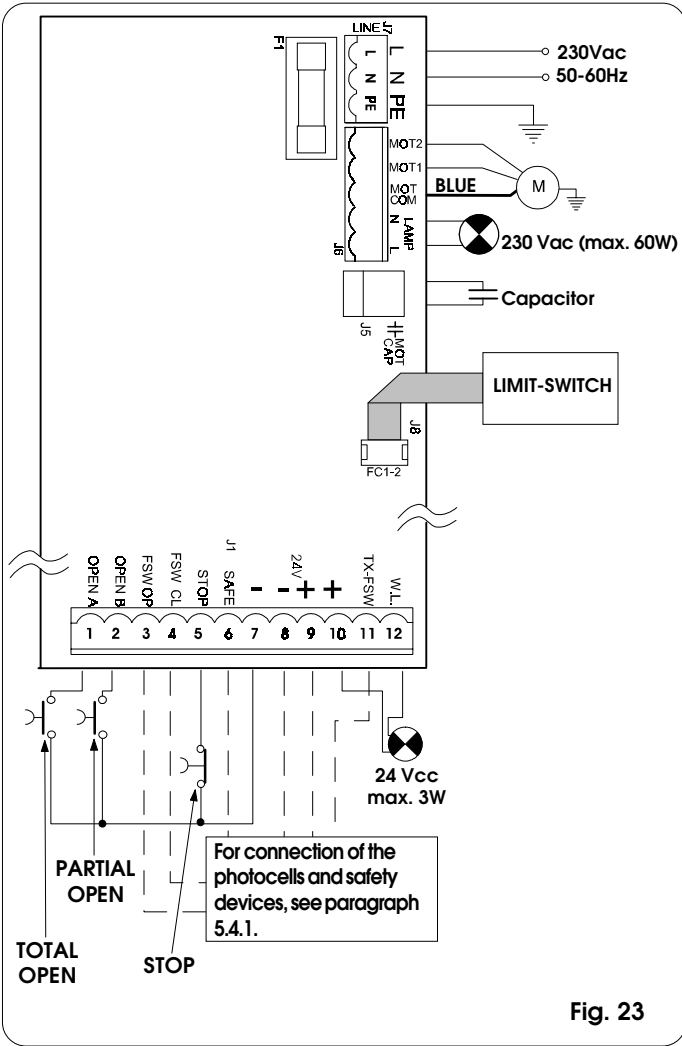

Fig. 23
5.4.2. J7 Terminal board - Power supply (fig. 23)
5.4.3. J6 Terminal board - Motors and flashing lamp (fig. 23)
5.4.4. J1 Terminal board - Accessories (fig. 23)